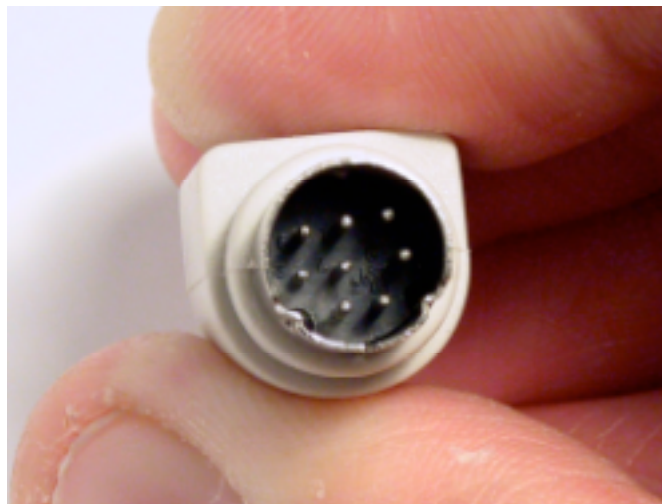
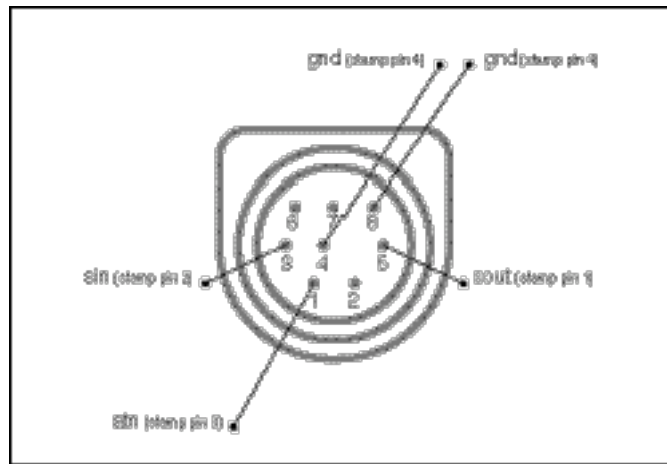

Figure 5: The Mini-Din8 plug head-on
Figure 6: The Mini-Din8 plug head-on with the relevant pins indicated
- First, figure out which of the wires on the bare end of the cable are linked to the relevant pins of the Mini-Din8 plug. Figure 5 shows a head-on photo of the Mini-Din8 plug. Figure 6 shows the same view diagrammatically with the relevant pins indicated. Using a multimeter set to measure resistance, hold one probe on the pins of the Mini-Din8 plug and one on the bare wires. You are looking for the wires connected to the pins *gnd*, *sin*, *sout* and *attention*. Note down the colours of the wires. Table I shows which colours matched which pins in our case, though your cable may use different colours so tread carefully.